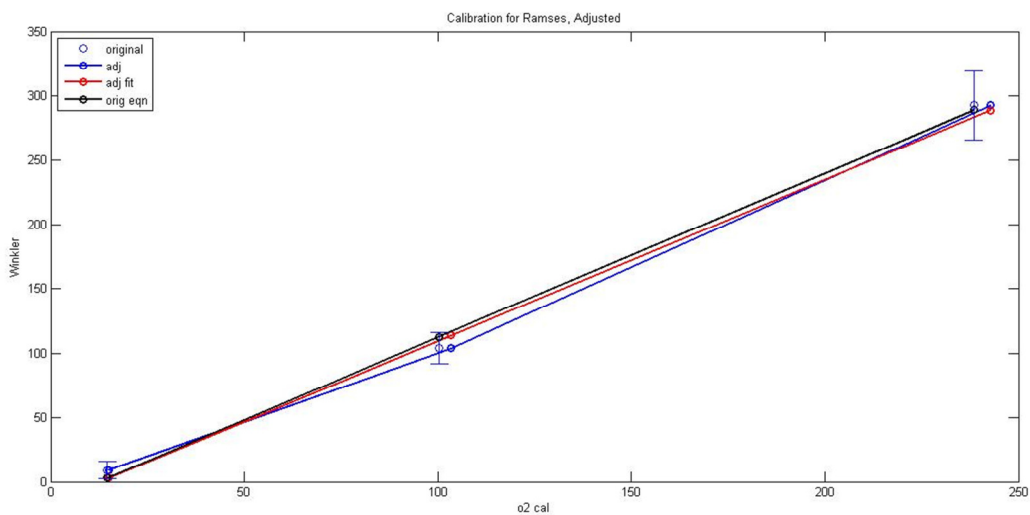

Figure 5a: Adjustments to calibration curve for Ramses
3. Get a linear fit to the revised calibration data points. This revised linear fit (slope and intercept) should then be applied to the data, resulting in *calibrated* TSP-corrected [O₂]. The revised calibration curves are shown in Figures 5a and 5b.
In Figures 5a and 5b, the "original" calibration points are plotted in blue circles (no line) with the Winkler standard deviations. The original fit is plotted as "orig eqn" in black. The calibration points are then adjusted as documented above to generate the blue circles (*with* line). The new, adjusted fit is in red.